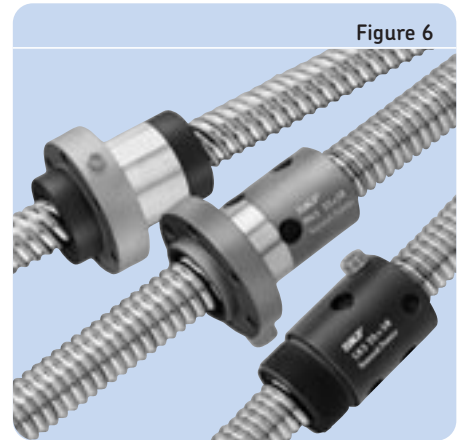

Figure 6
- The large ball screws (→ **figure 6**) enable you to select the right level of requirement: simple transport screws, very fast screws with long lead, or preloaded screws for more precision.